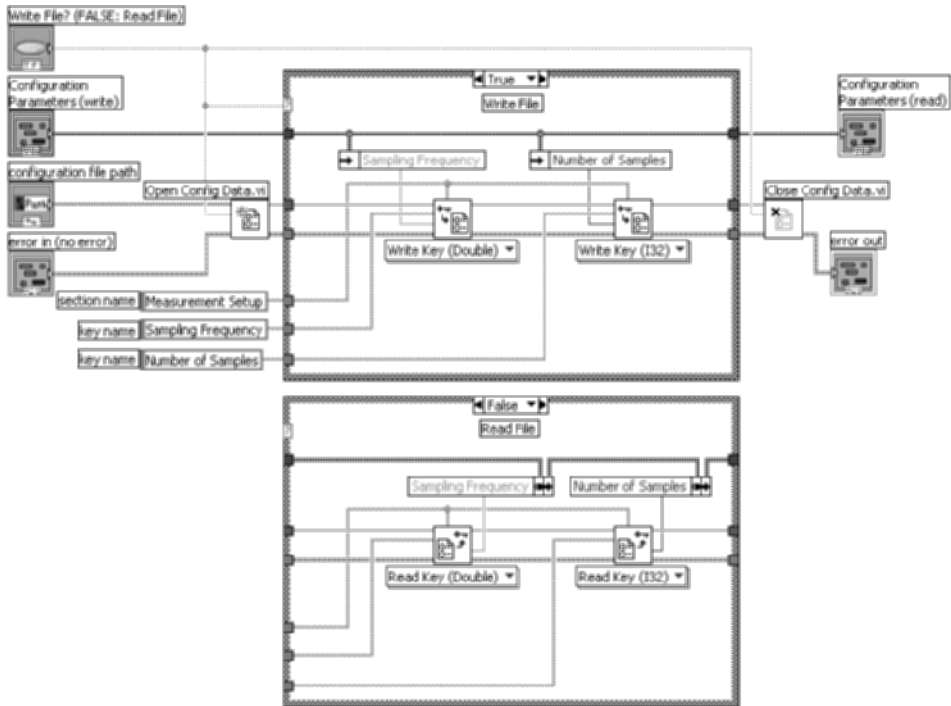

Figure 14.32
2. Create the block diagram shown in Figure 14.32. Note that the “False” frame of the Case Structure is shown below the “True” frame, only for illustrative purposes.